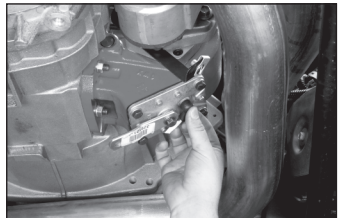

Fig. 19
21. Run wiring harness over top of transmission and connect the booted connector to the P.T.O. indicator switch (Fig. 19). See page 17 of this manual for in dash switch installation. Secure harness to the transmission to protect the relay from damage.